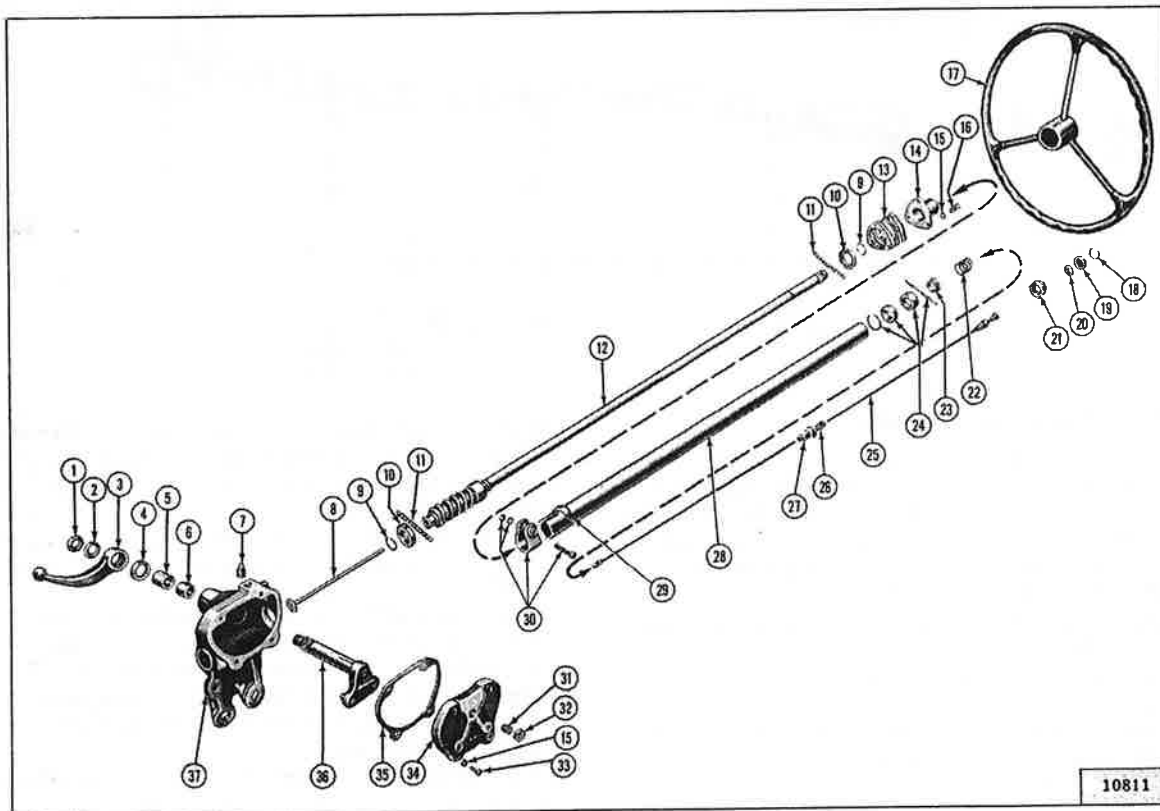

FIG. 268—STEERING GEAR
The cam and lever steering gear is illustrated in Fig. 268. It consists of a spiral cam, and a cross shaft and lever assembly with two lever studs. When the steering wheel is turned, the cam moves the studs, causing rotary movement of the cross shaft, which in turn causes angular movement of the steering arm.
- a. Remove the steering gear arm (Fig. 268) with a puller C-3646.
Reassemble all parts to wheel tube in reverse order of dismantling and solder the horn cable to the ring (Model CJ-2A before Serial No. 178361 only). Assemble cam, wheel tube and bearing assembly in housing, seating the lower bearing ball cup Fig. 268, in the housing.